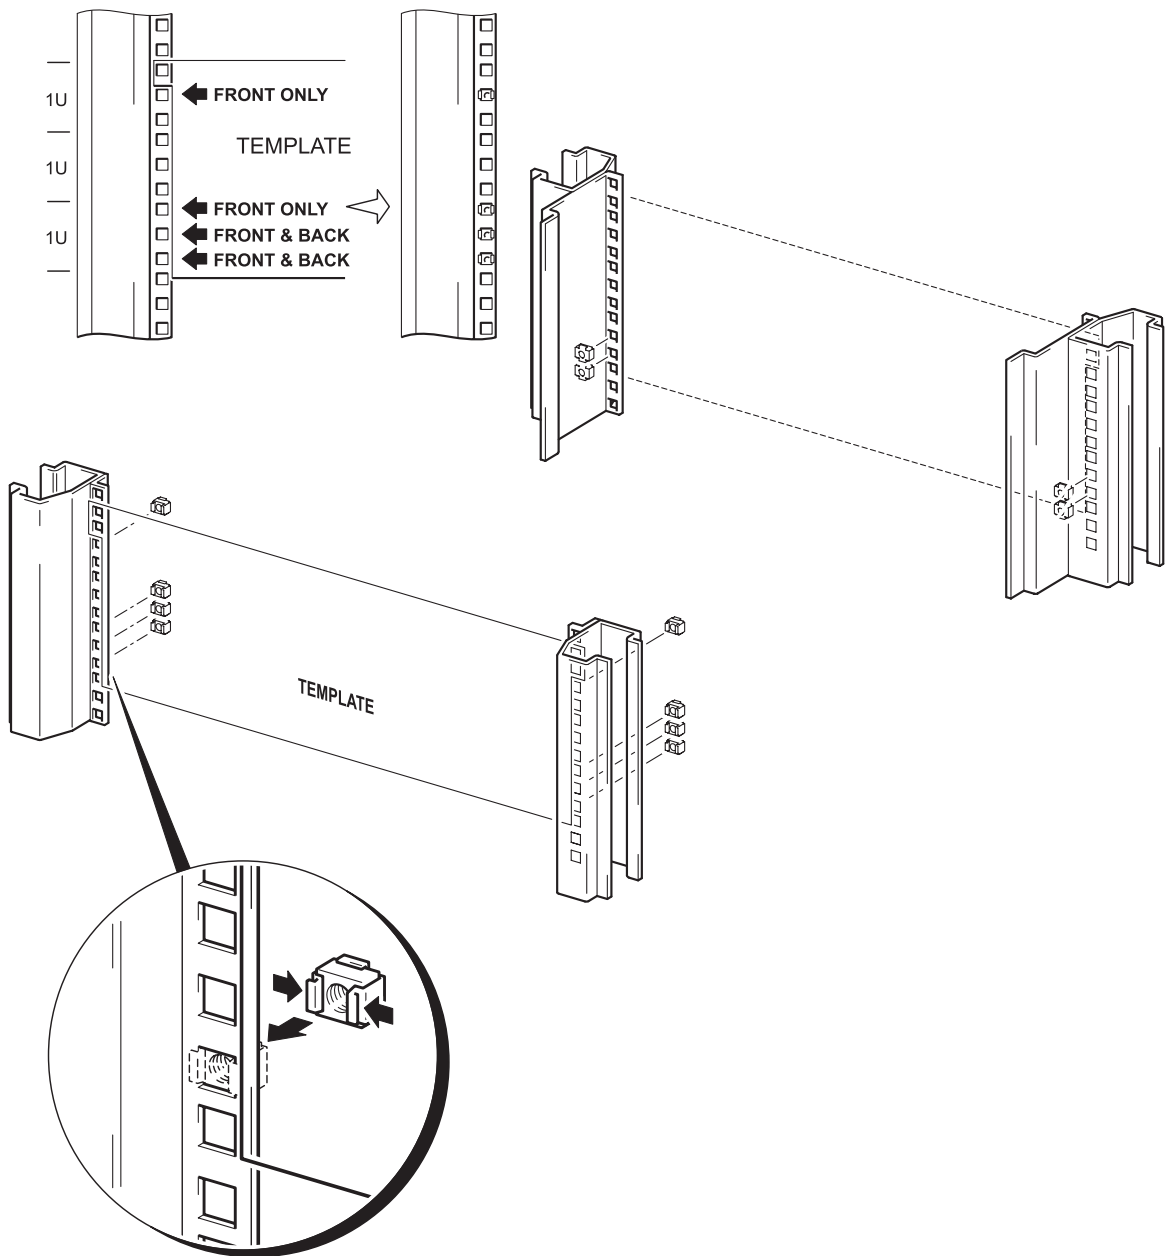

Figure 2b: Install M6 cage nuts (square hole profile)
- 3 Place the first eight cage nuts, as shown in Figure 2b, at the locations indicated by the black arrows marked either "FRONT ONLY" or "FRONT & BACK" on the template (four cage nuts to each side). This is done by squeezing the sides of the cage nut and inserting it into the square hole from the inside of the rack column. The cage nuts are spring loaded. If necessary, use the blade of a screwdriver to snap it into place.